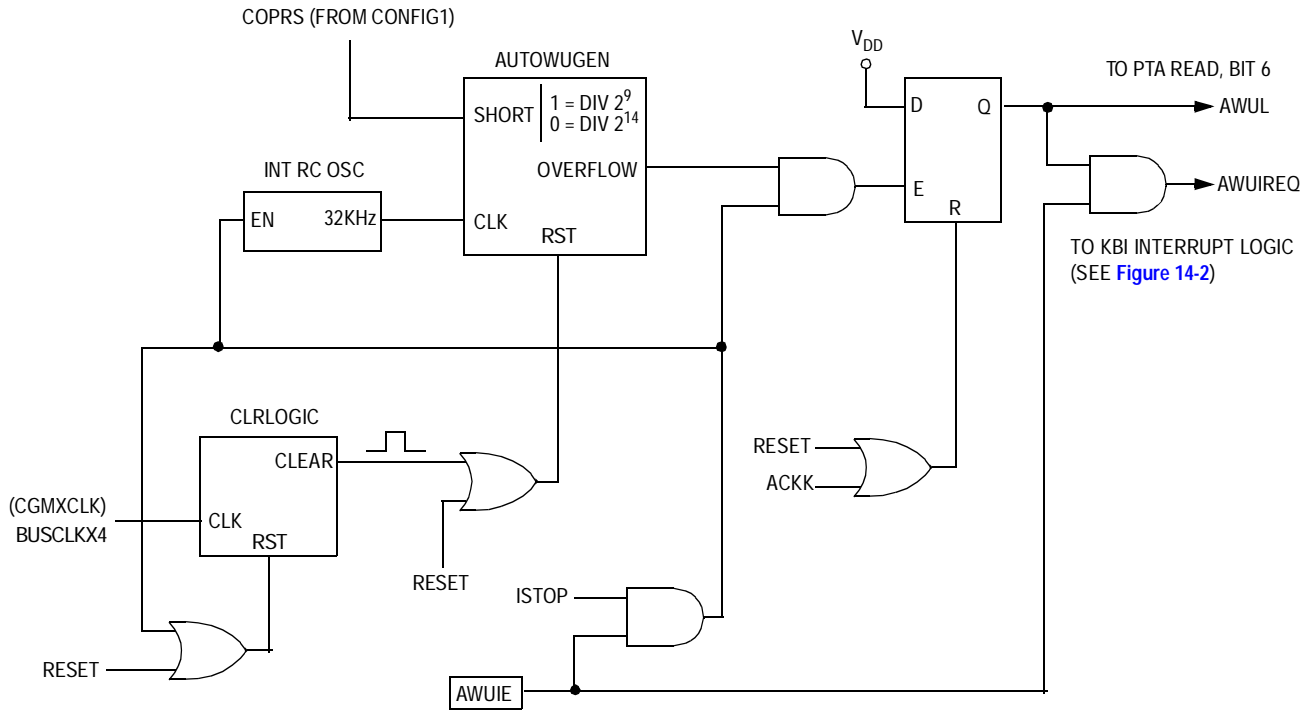

Figure 14-5. Auto Wake-up Interrupt Request Generation Logic
1. For AWUGEN logic refer to Figure 14-5.
Writing the AWUIE bit in the keyboard interrupt enable register enables or disables the auto wake-up interrupt input (see Figure 14-5). A logic 1 applied to the AWUIREQ input with auto wake-up interrupt request enabled, latches a keyboard interrupt request.